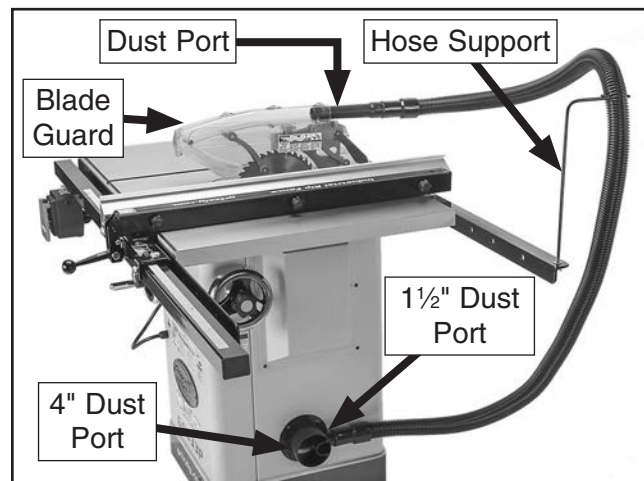

Figure 33. Dust hose attached to saw, hose support, and blade guard dust port.
2. Slide one adapter onto 1½" dust port (see **Figure 33**), until it fits snugly.
3. Attach dust hose to dust hose support, then insert dust port into rear of blade guard assembly (see **Figure 33**).